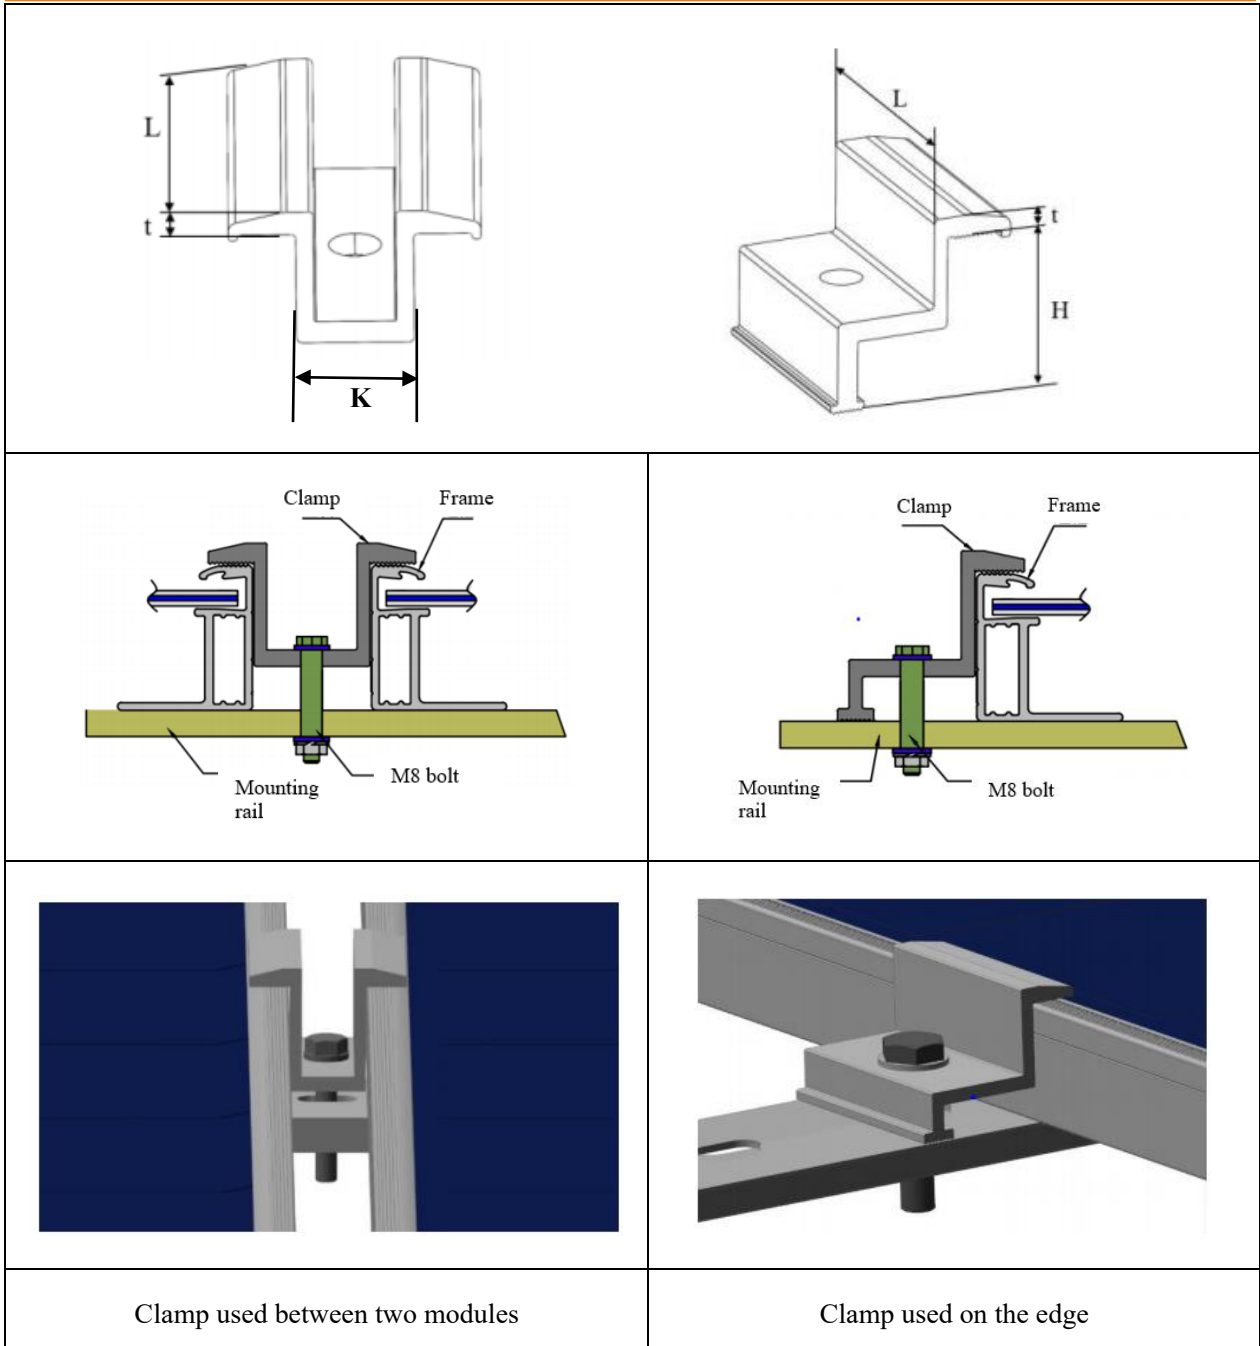

Fig. 13 Diagrammatic sketch of installation with clamps
- Clamps with two or more sizes of K (see Fig. 13) can be prepared in the design stage. These clamps